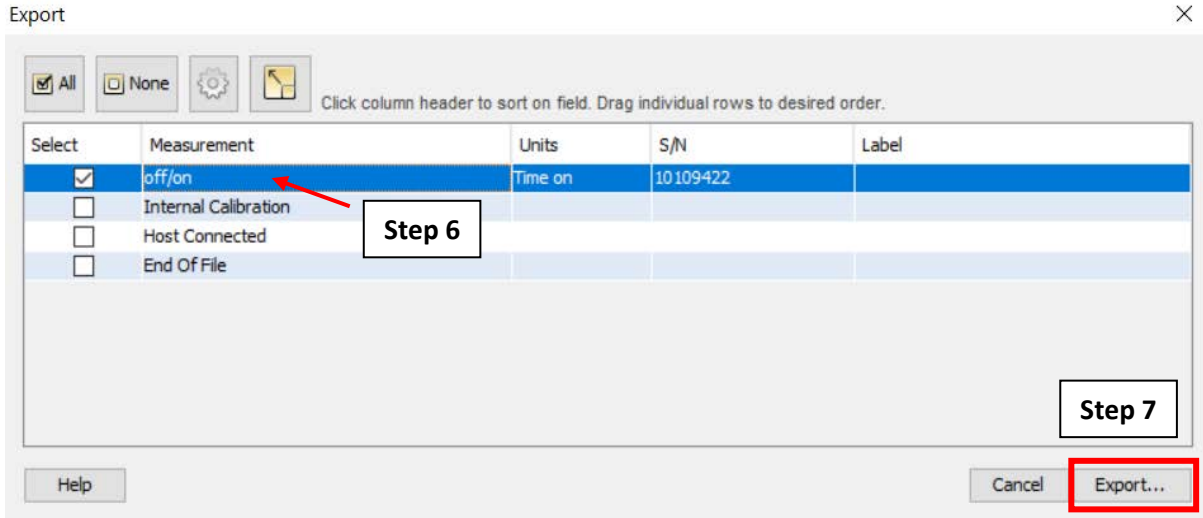

Figure A.8.17: The “Export” Window and corresponding steps.
4. The “Export” window will open and display the data available to export (Figure A.8.17).